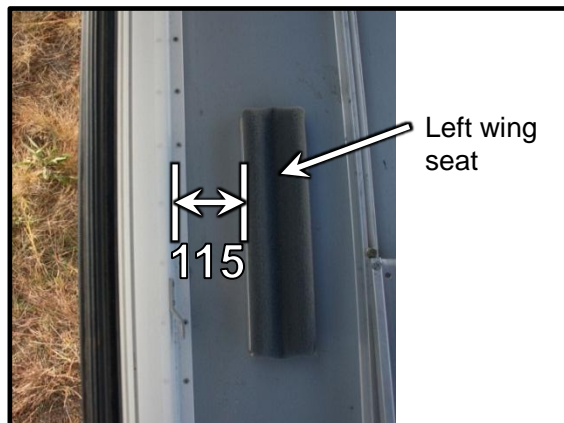

Figure 12
- 5.1. Move the wing seats to the position illustrated in Figure 12. 115 mm from trailer side edge..